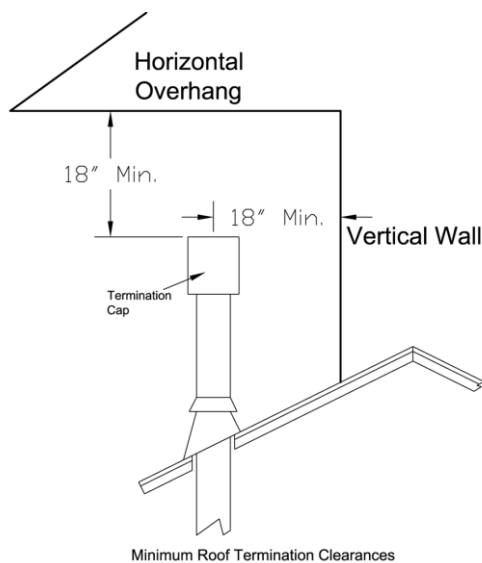

Figure 8 - Termination Cap clearances
- ✿ All termination caps must be no less than 18" (457mm) horizontally from any roof or vertical surface. See Figure 8.
- 🔥 All horizontal terminations must also comply with the clearance specifications to adjacent structures outlined in Figures 8 & 11.